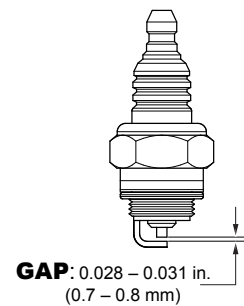

Figure 29. Spark Plug Gap
1. Remove and clean the spark plug (Figure 29) with a wire brush if it is to be reused. Discard the spark plug if the insulator is cracked or chipped.